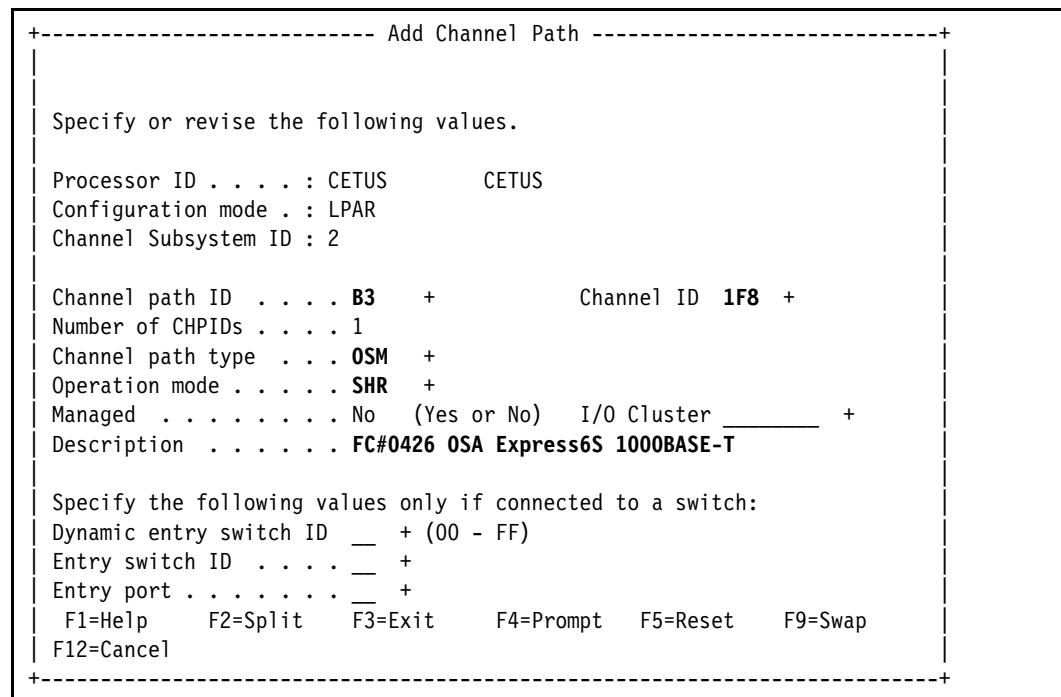

Figure 13-45 Processors: Add Channel Path, OSM
4. In the command line, enter add (Figure 13-45) to add a CHPID.